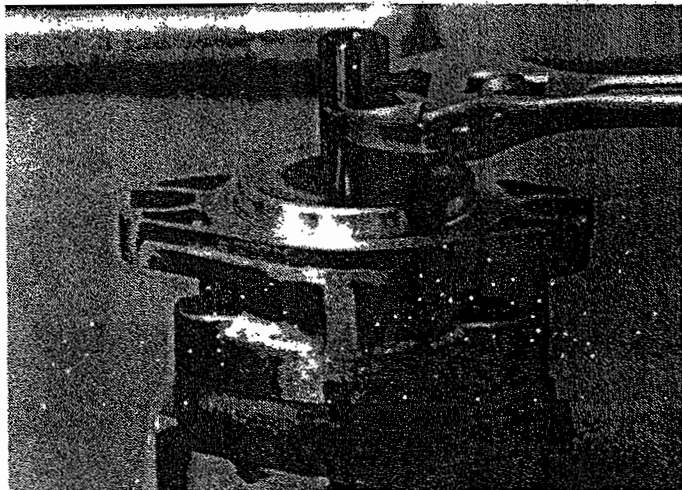

Fig. 20
24. You may not be able to rotate the shaft by hand alone. But with the aid of a small adjustable wrench, you should be able to rotate the shaft with little effort. If the shaft can not be rotated as described, disassemble the pump and check the parts for burrs, foreign material, and incorrect assembly causing interference. Remove the cause and reassemble as per instructions. (Fig. 20)